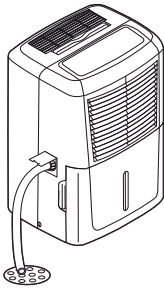

fig. 2
- 3) Thread a garden hose (not supplied) onto the nozzle, cut to length, and lead it to the floor drain (fig. 2).